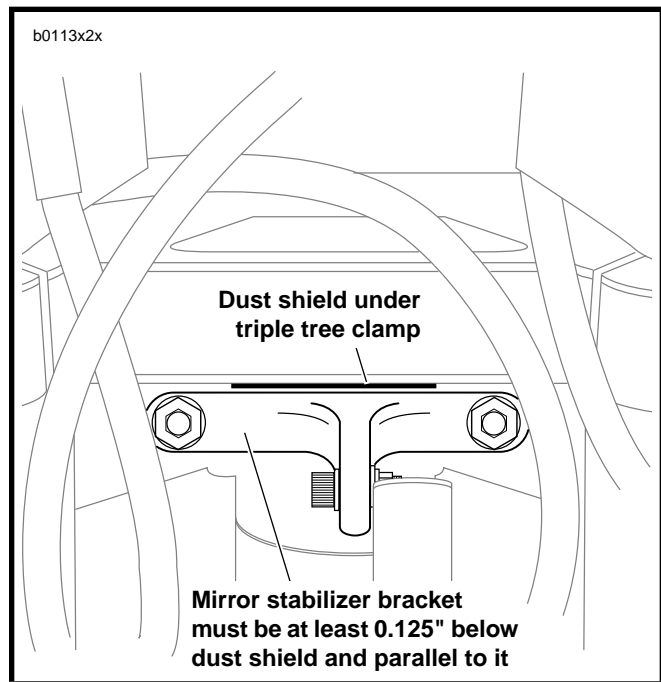

Figure 3. Checking Installation
11. See Figure 3. Check distance between top of mirror stabilizer bracket and dust shield below upper triple tree clamp. Bracket and dust shield must be parallel and have a gap of at least 0.125".